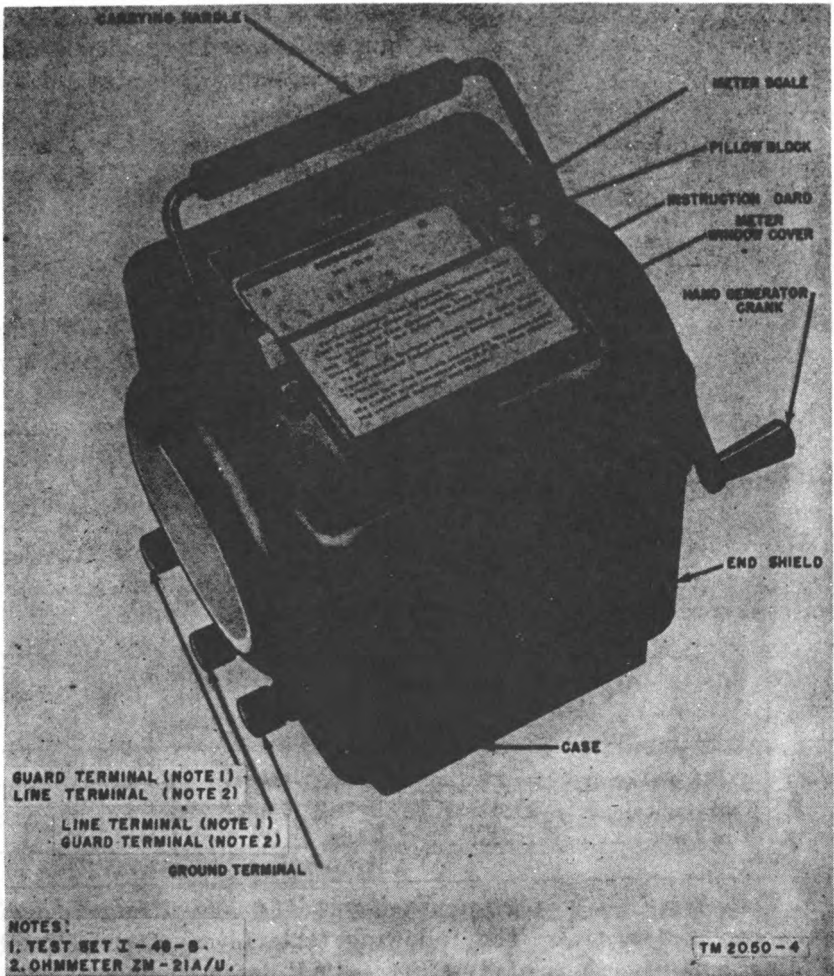

Figure 1. Test set I-48-B or ohmmeter ZM-21A/U.
Test Set I-48-B and Ohmmeter ZM-21A/U (fig. 1) are self-contained, portable, constant-voltage insulation resistance measuring sets. Each instrument consists of a high-range ohmmeter of special design, mounted in a molded plastic case with a hand-operated direct-current (dc) generator. By removing the end shield, located at one end of the case (fig. 1), the ohmmeter chassis can be removed for inspection and replacement of generator and meter parts. Three binding posts for external connections are located on the end of the case opposite the end shield. The meter scale, located at the top of the case, is protected by a cover hinged to pillow blocks. A condensed summary of operating instructions is mounted on the back of the meter window cover.
- (1) The positions of the GUARD and LINE binding posts have been reversed on Ohmmeter ZM-21A/U. The location of these binding posts on Test Set I-48-B is shown in figure 1.